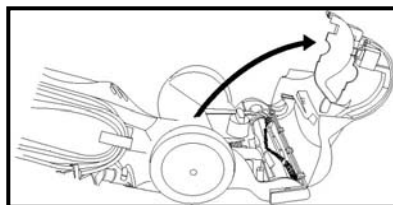

Fig. 20
5. With the unit still lying down, turn it around and lift the cover of the power head starting from the back of the power head. (Fig. 20)